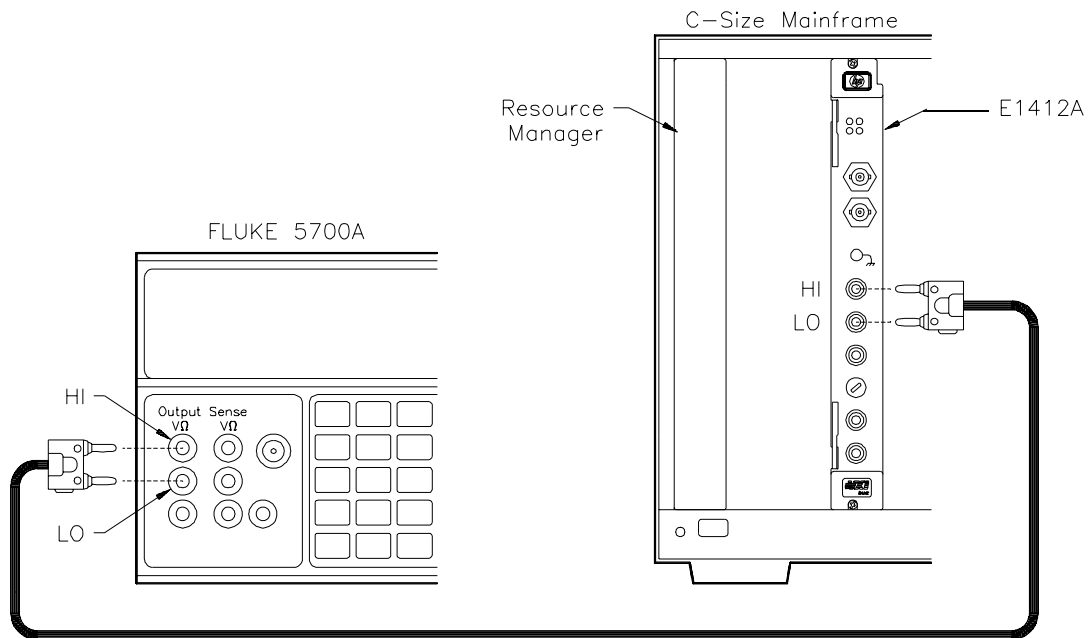

Figure 5-3. DC Voltage Gain Adjustment Setup.
1. Connect the DC Standard output across the HI and LO terminals of the Agilent E1412A as shown in Figure 5-3.
1. Connect the AC Standard output across the HI and LO terminals of the Agilent E1412A as shown in Figure 5-3.